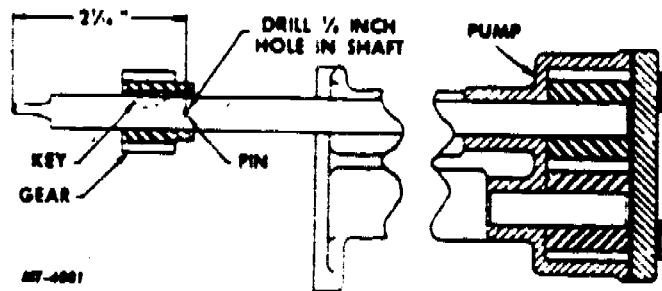

Fig. 82 - Oil Pump Drive Gear Installation.
9. Install pump drive gear on shaft and install dowel pin. When installing a new shaft, it will be necessary to drill a 1/8 inch diameter hole for the pin at the dimension shown in Fig. 82.